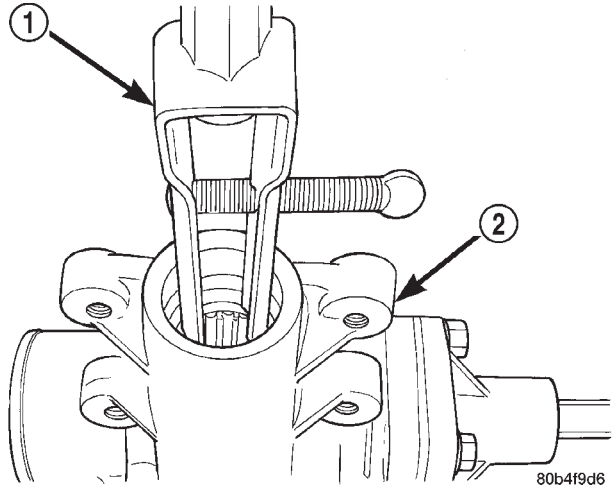

Fig. 9 Dust Seal Removal
- (5) Remove pitman shaft cover o-ring.
- (6) Remove pitman shaft dust seal from the housing with a Puller 7794-A and Slide Hammer C-637 (Fig. 9).